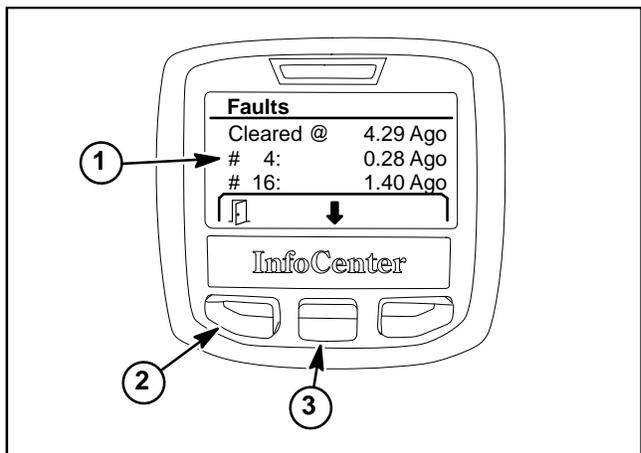

Figure 18
**Faults:** The Faults screen (Fig. 18) will list the last time faults were cleared and all machine electrical faults that have occurred since the faults were last cleared from the InfoCenter. The faults will be identified by fault number and when the fault occurred. Fault Codes that might occur on the machine are listed in the Troubleshooting section of this chapter. If the correct personal identification number (PIN) has been entered (see Settings Screen – Protected Menus in this chapter) the service screen allows access to additional information about each fault present and provides the ability to clear any of the present faults.